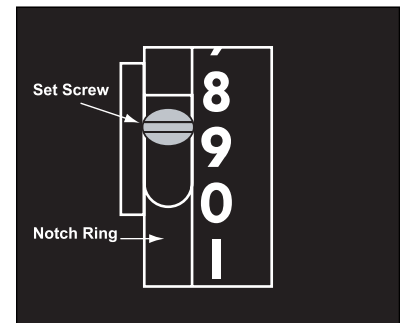

Figure 16b: Set Screw & Notch Ring
4. Use a screwdriver to loosen the set screw on the notch ring located on the left side of the units wheel (Figure 16b). This allows for the repositioning of the notch ring and units wheel.